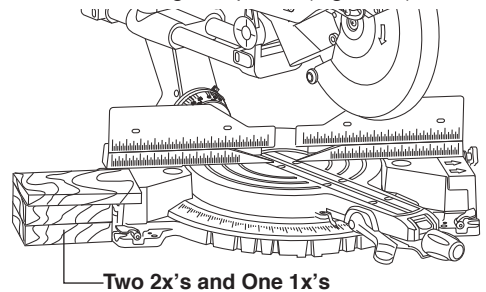

Figure 23. Block Support
**Blocks** - Long pieces need extra support. The base height (3-3/4") is designed to match the standard lumber of two 2x's and one 1x. Boards of these thicknesses can be used to create auxiliary support extensions for long workpieces (Figure 23).